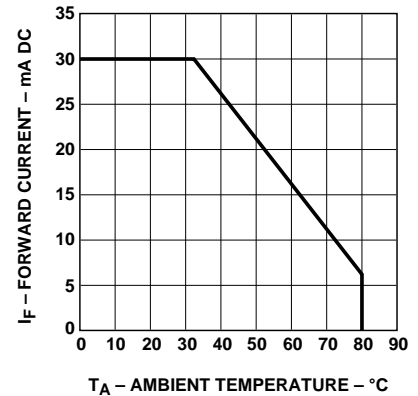

Figure 6. Maximum DC Forward Current vs. Ambient Temperature. Derating Based on T_J Max. = 115 °C.
1. Derate linearly from 50 $^\circ\text{C}$ as shown in Figure 6.